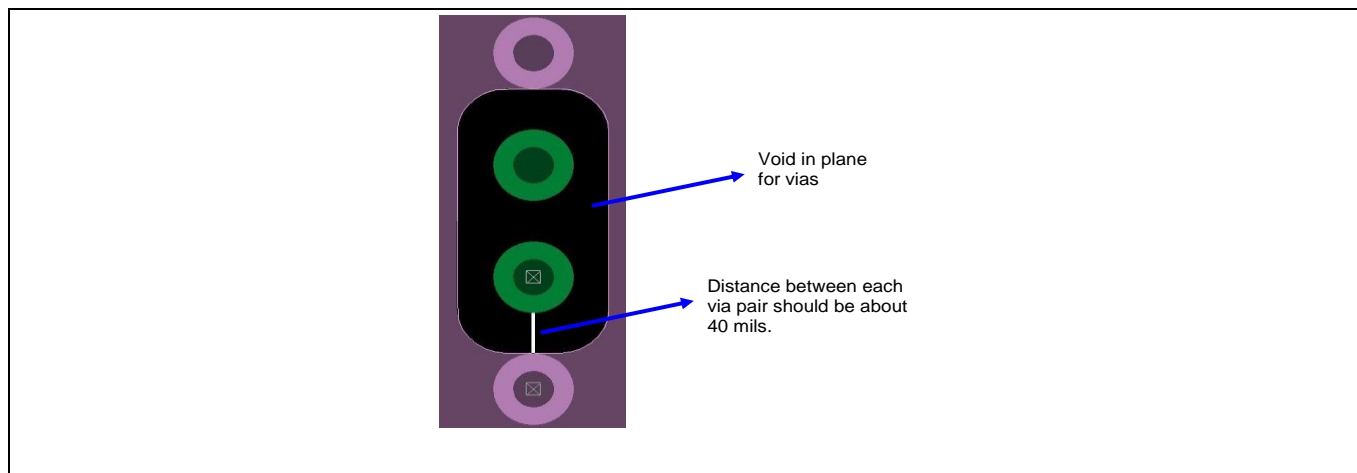

Figure 34 Void via placement for SS traces
- Void for vias on the SS signal lines should be common for the differential pair. Having a common void, as shown in Figure 34, maintains better impedance matching in comparison to separate vias.